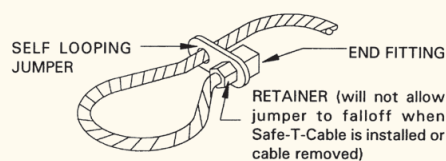
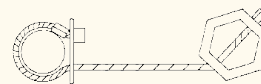

FIGURE 2: Self Looping Safe-T-Cable®
FIGURE 3: Self Looping Safe-T-Cable® Anchored to a PIN Assembly
1.3.5. Installing Holes: Safe-T-Cable® must be installed through the holes intended for this purpose in the part being secured, or through the holes provided in a self looping device (Figure 2) secured to the Safe-T-Cable® by the Safe-T-Cable® manufacturer. In applications where holes are not provided for Safe-T-Cable® in the component to which it is attached the self looping Safe-T-Cable® may be used in a manner like, or similar to, Figure 3.